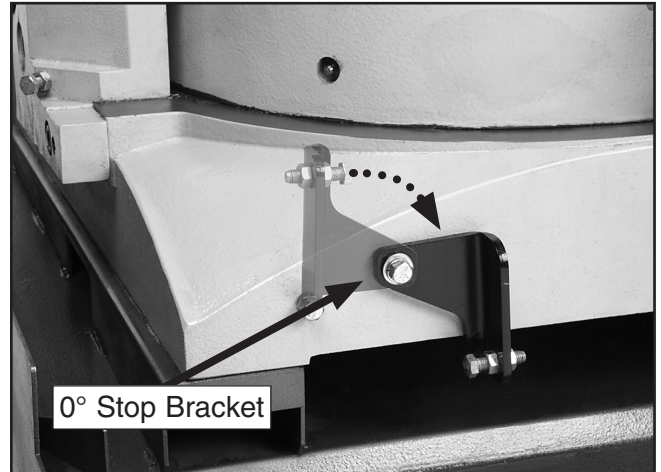

Figure 24. 0° stop bracket.
3. Locate the 0° stop bracket and swivel it out of the way, as shown in Figure 24. This will allow the bow to rotate past 0° .